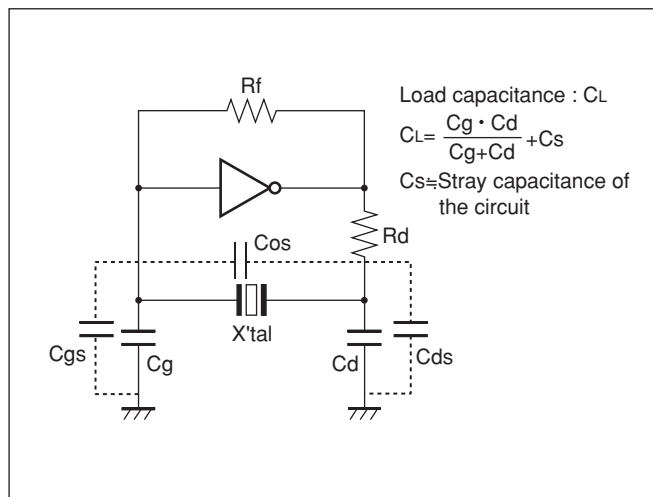

Figure 12
2. OSCILLATION FREQUENCY AND LOAD CAPACITANCE (CL)
- The load capacitance (C_L) is a parameter for determining the frequency of the oscillation circuit. The C_L is represented by an effective equivalent capacitance that is loaded from the oscillation circuit to both ends of the crystal unit (see Figure 12).